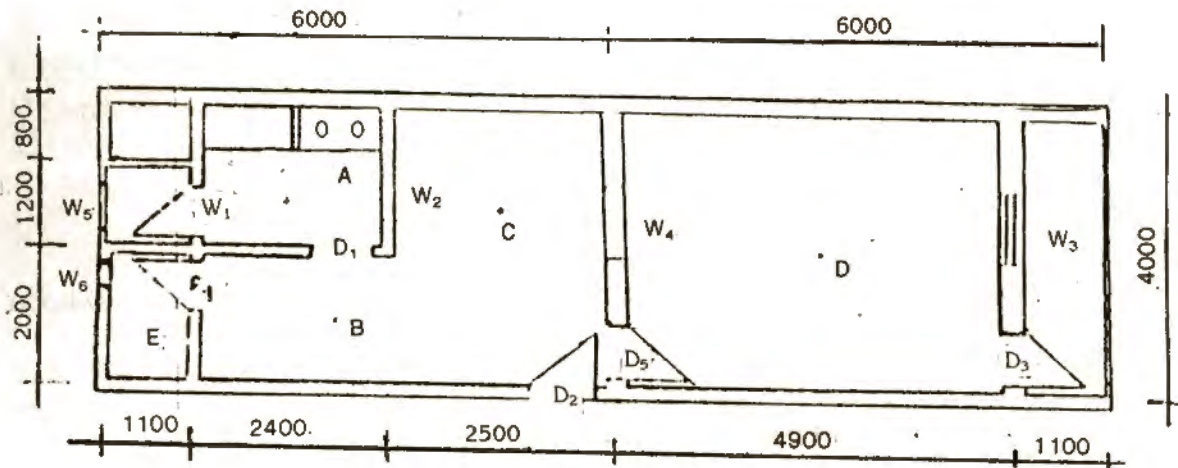

FIG. 1. : PLAN OF THE REFERENCE FLAT.
Table 2 : The CO Concentration in relation to different methods of ventilation. The measurements are from the Reference flat. See fig. 1 for locations of window (w) and door (D).